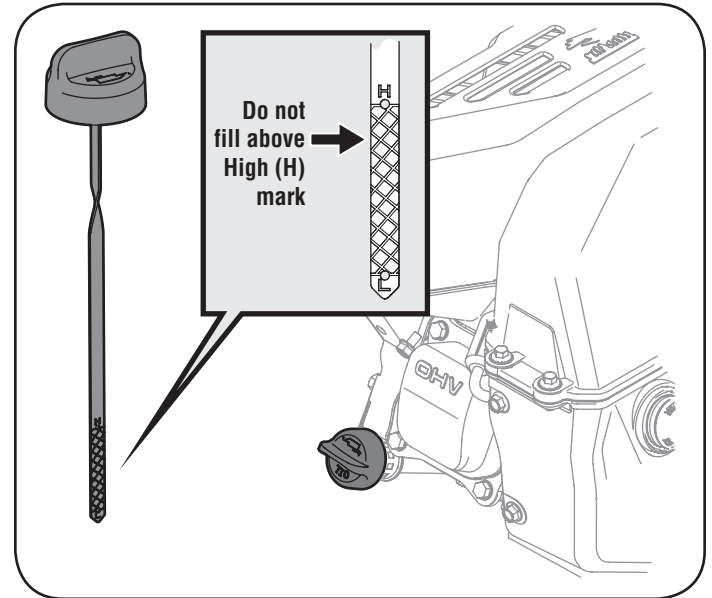

Figure 17
3. Remove the oil filler cap/dipstick. If level is low, slowly add oil until oil level registers between high (H) and low (L). See Figure 17.